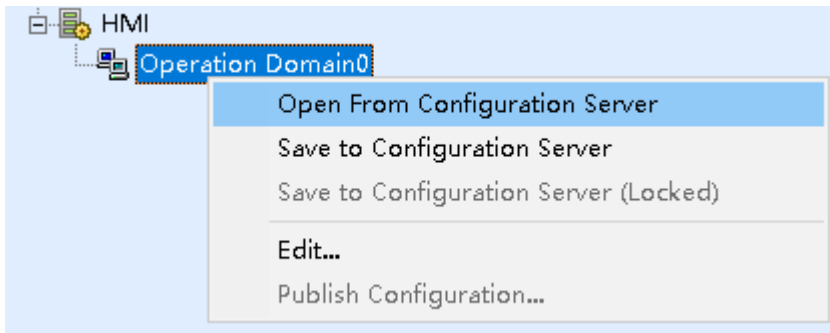

Figure 2-1 Open VFHMICfg
1. Select an operation domain of HMI in VFExplorer, and pop up a right-key menu, as shown in the Figure 2-1.